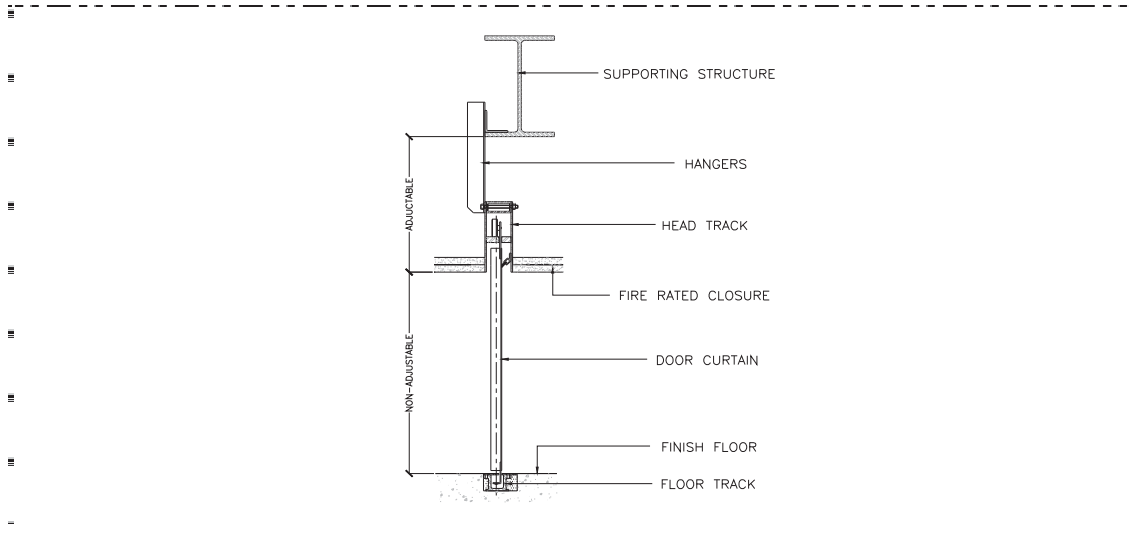

FIGURE 4 – with a floor track assembly
STEP 6 – Installation of the Opening Head Track Assembly (Refer To Figures 4 & 5)